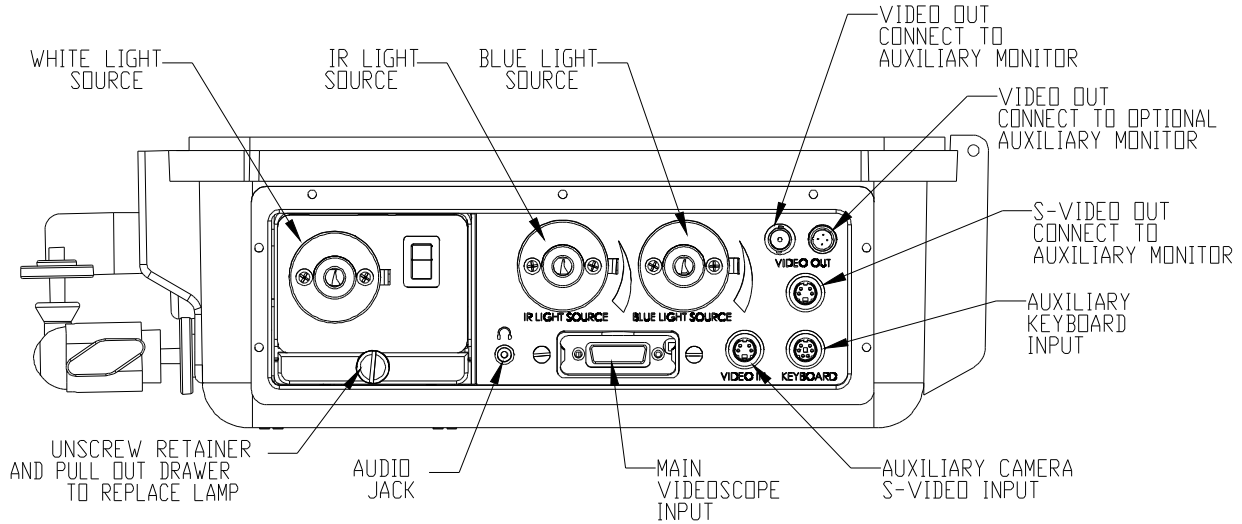

Fig. 2: Side Panel
1. Connect the Videoscope control cable video connector into the Main Videoscope Input connector located on side of **V5 Videoscope System (V5)** shown in Fig. 2 above.